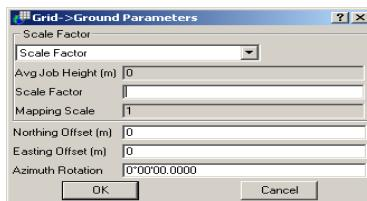

Figure 3-60. Grid->Ground Parameters Dialog Box
3. On the **Grid->Ground Parameters** dialog box, enter the transformation parameters (Figure 3-60).